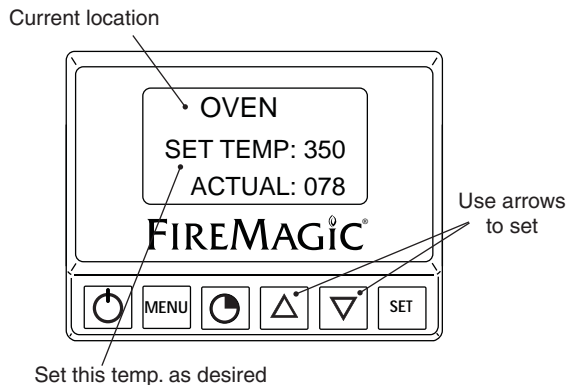

Fig. 25-1 Area temp. screen (oven shown)
2. The selected location's temperature screen will be displayed. Use the arrows to set the desired temp. The actual temp. will also be shown (see Fig. 25-1).